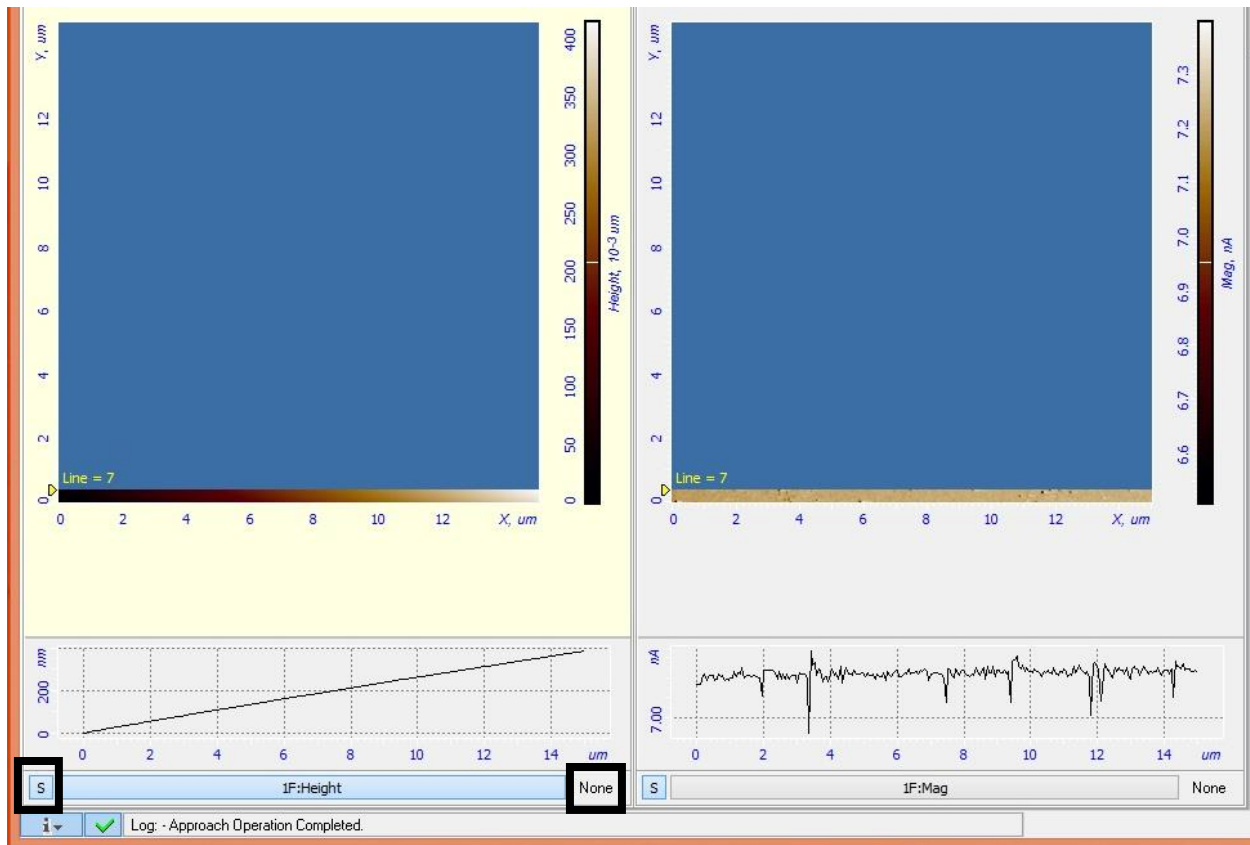

Figure 19: start of scan
- Its help full to pull up a cross sectional view of the scan click the “s” button in the bottom left of the height scan screen (Figure 19).
- Click "None" in the bottom right of the height scanning screen this will activate a drop down menu and select the desired correction (Figure 19).